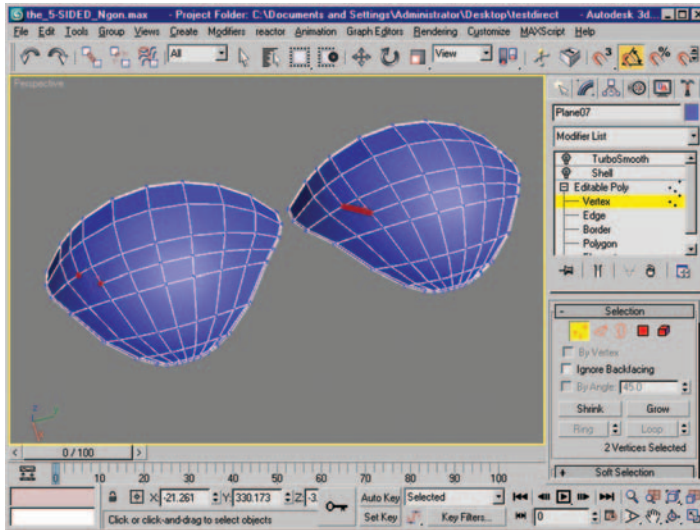

Figure 6.61 Vertex selection and resulting edge after using Connect.
5. Select the two vertices shown in Figure 6.61 and use Connect to create a diagonal edge. The new edge results in a Tri N -gon and a five-sided N -gon neighboring each other; not to worry, in the next step we will eliminate both.